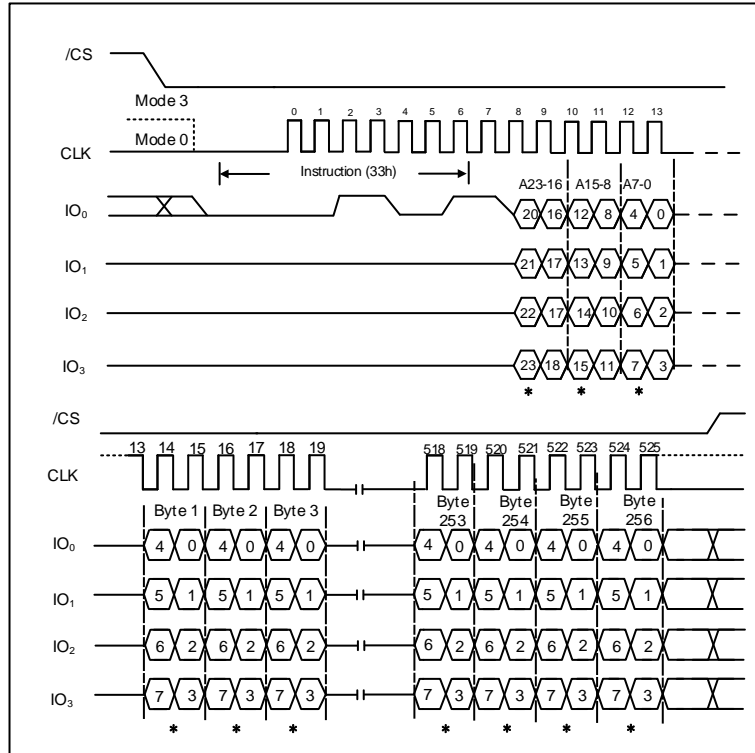

Figure 31. Quad Page Program Instruction (SPI Mode only)
The Quad Page Program (33h) instruction is similar to the Quad Input Page Program (32h) instruction except that address and data bits are both input and output through four pins IO0, IO1, IO2 and IO3. The Quad Page Program can improve performance for PROM Programmer and applications that have slow clock speeds <5MHz. Systems with faster clock speed will not realize much benefit for the Quad Page Program instruction since the inherent page program time is much greater than the time it take to clock-in the data. To use Quad Page Program the Quad Enable (QE) bit in Status Register-2 must be set to 1. The Quad Page Program instruction sequence is shown in Figure 31.